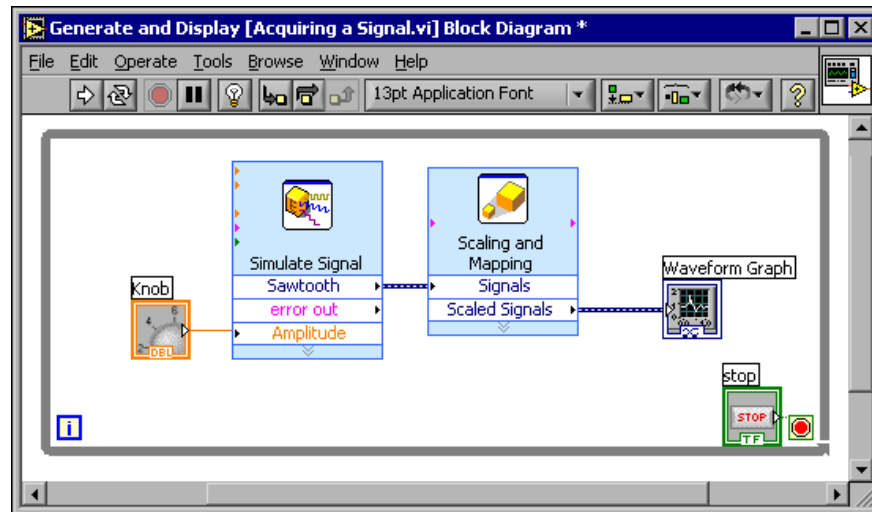

Figure 2.22
9. Using the **Wiring** tool, wire the **Scaled Signals** output of the **Scaling and Mapping Express VI** to the **Waveform Graph** terminal. Notice the wires connecting the Express VIs and terminals. The arrows on the Express VIs and terminals indicate the direction that the data flows along these wires. The block diagram should appear similar to Figure 2.22.